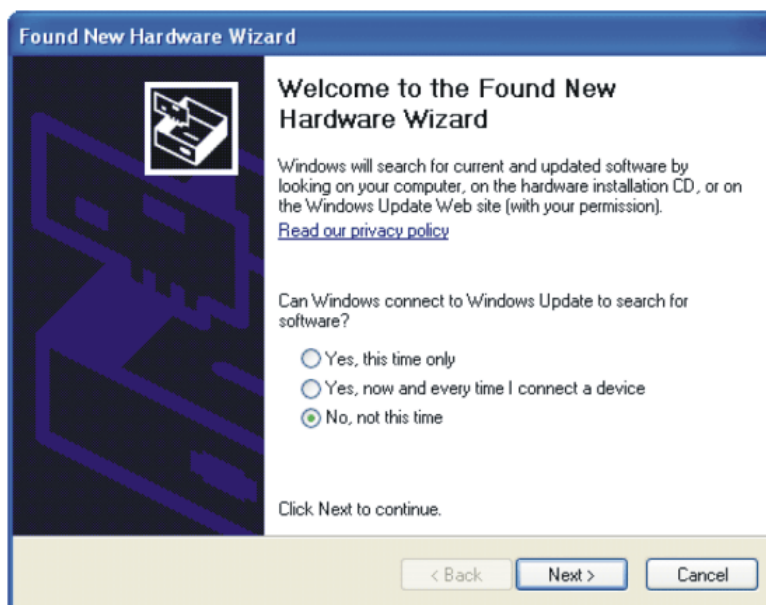

Figure 16. NI-VISA Driver Installation Wizard, Screen 1
2. The computer should recognize new hardware and begin installing the drivers for the hardware. Figure 16 through Figure 19 are provided for reference to show the installation steps.
- For the first screen (Figure 16), it is not necessary to search for the software; it has already been installed to your PC.